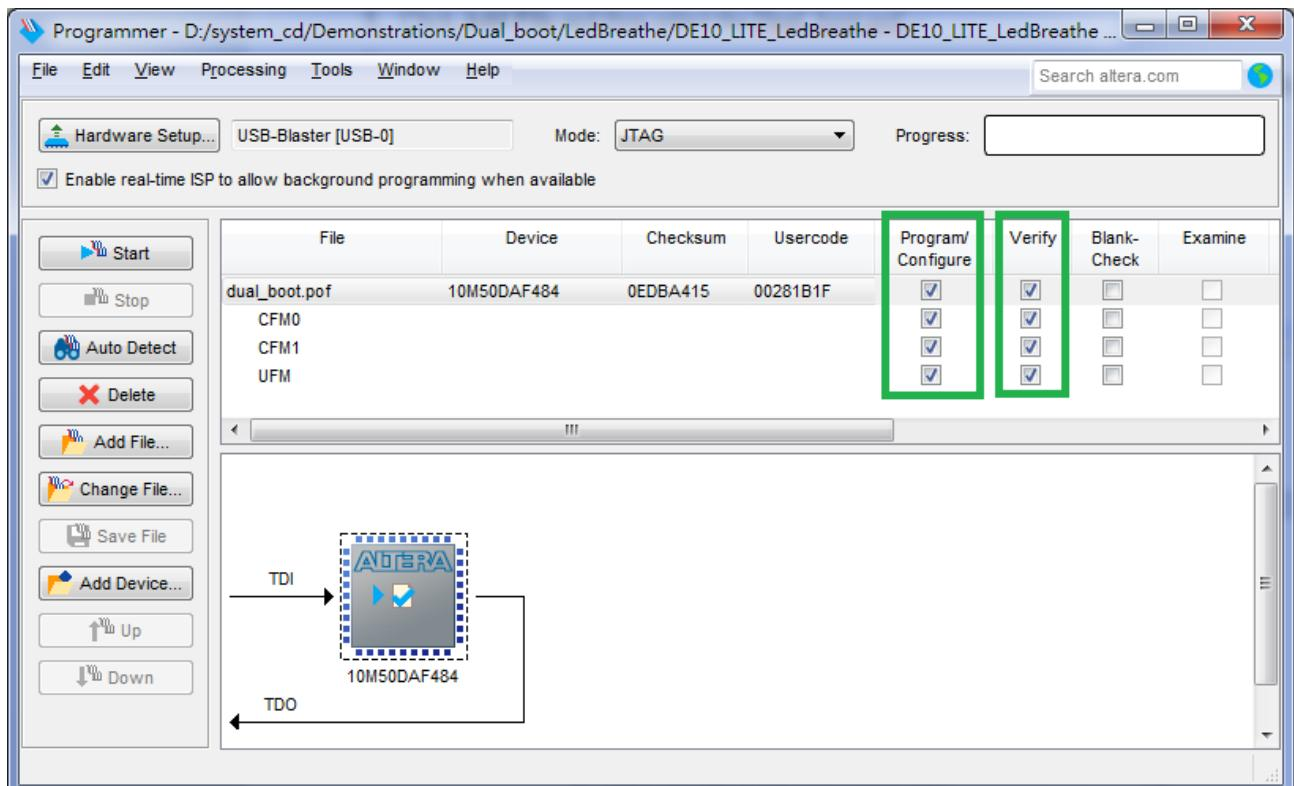

Figure 6-17 Programmer window with dual\_boot.pof file
4. Program the **CFM** device by clicking the corresponding **Program/Configure** and **Verify** box, as shown in **Figure 6-17**.